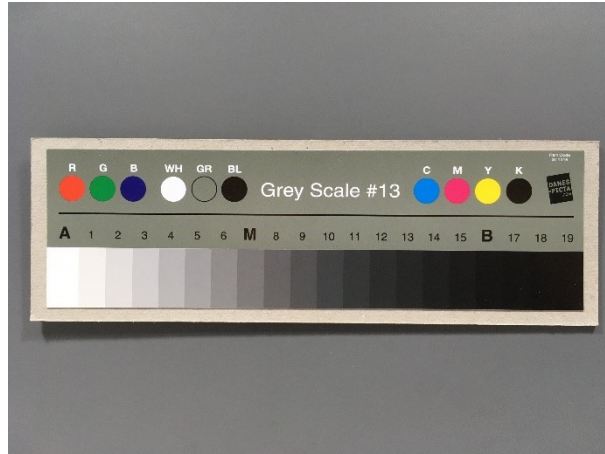

Fig. 4.4: Gray scale card diagram
Step 3. After optimizing the parameters of Gamma, LDCI, DCI and Dehaze, test the gray scale card under the lab light box D50 to ensure the gray scale is no less than 18. Figure 4-4 is a gray scale card diagram.